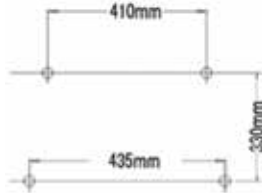

Fig. 3
1. Draw two parallel lines 330 mm apart on the wall according to Fig. 3.